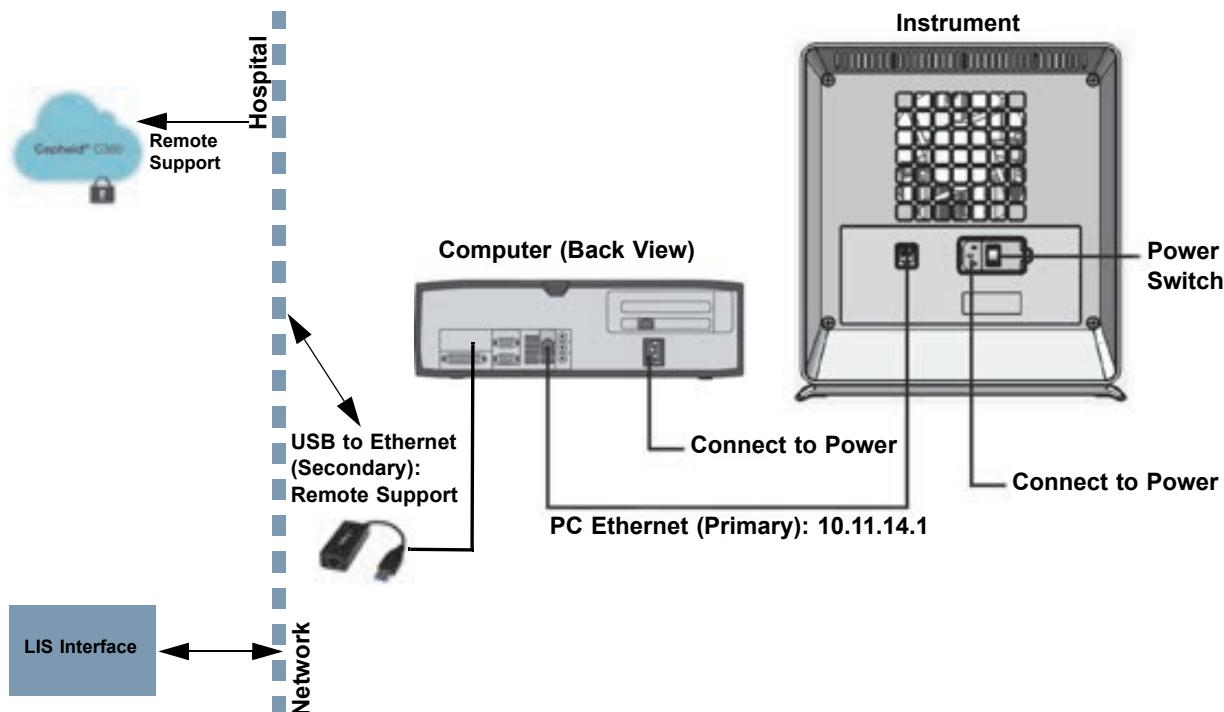
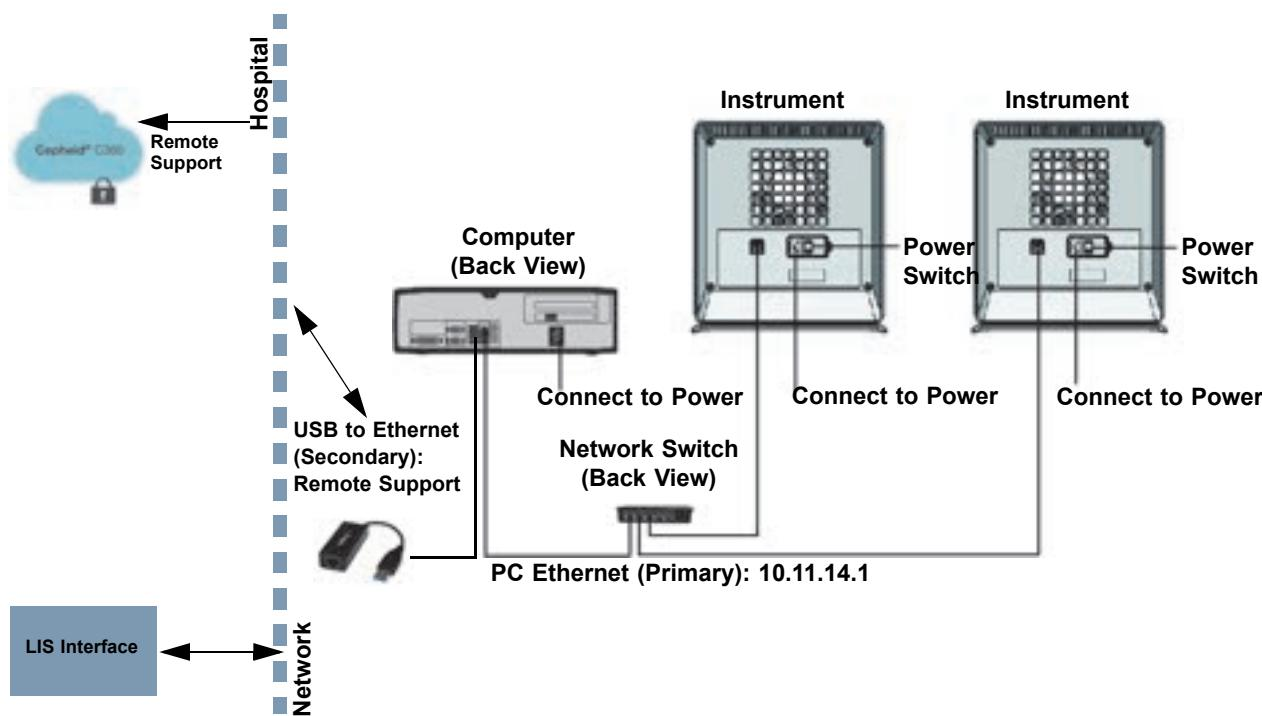

Figure 2-11. Connecting GX-IV Instrument to C360
Figure 2-12. Connecting Multiple GX-IV Instruments to C360
3. Confirm that the primary Ethernet connection from the computer to the Instrument (see Figure 2-11) or Network Switch (for multiple instruments as shown in Figure 2-12) uses IP address **10.11.14.1**.